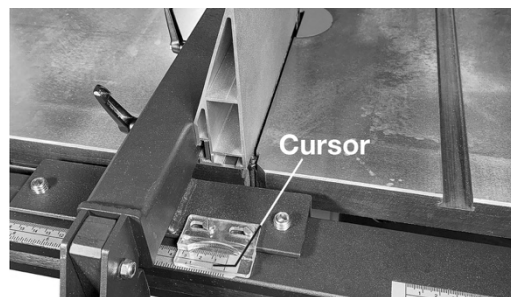

Figure 5-27
1. With fence against blade, verify that cursor (see Figure 5-27) aligns with zero on scale.